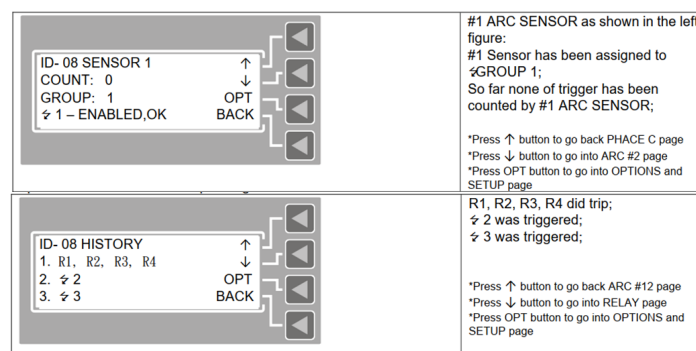

Figure 4.6.6: Arc Sensor page and History page
- SYM includes a HISTORY page showing past relay trips and ARC sensor triggers (Refer to Figure 4.6.6).